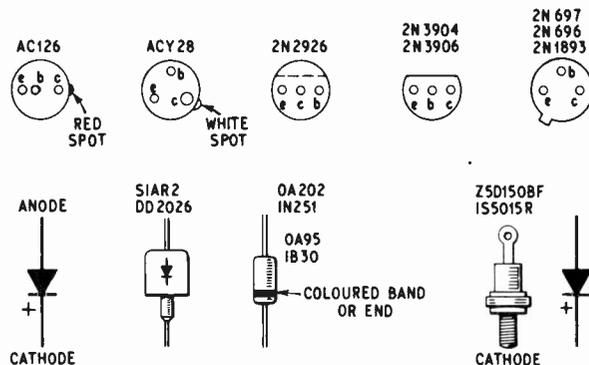

Fig. 3.3. Transistor and diode key
*It is seriously recommended that the reader who intends to build PEAC should adhere closely to the semiconductor types specified here, and not consult other lists of equivalents. A key to transistor and diode connections appears in Fig. 3.3, and this covers all the semiconductors used in PEAC circuits.*